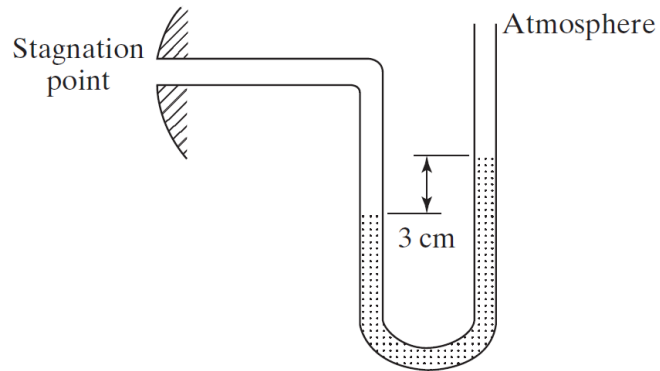

Fig. 2.
23. A U-tube manometer is used to measure the pressure at the stagnation point of a model in a wind tunnel. One side of the manometer goes to an orifice at the stagnation point; the other side is open to the atmosphere (Fig. 2). If there is a difference of 3.0 cm in the mercury levels in the two tubes, what is the pressure difference in N/m^2 .